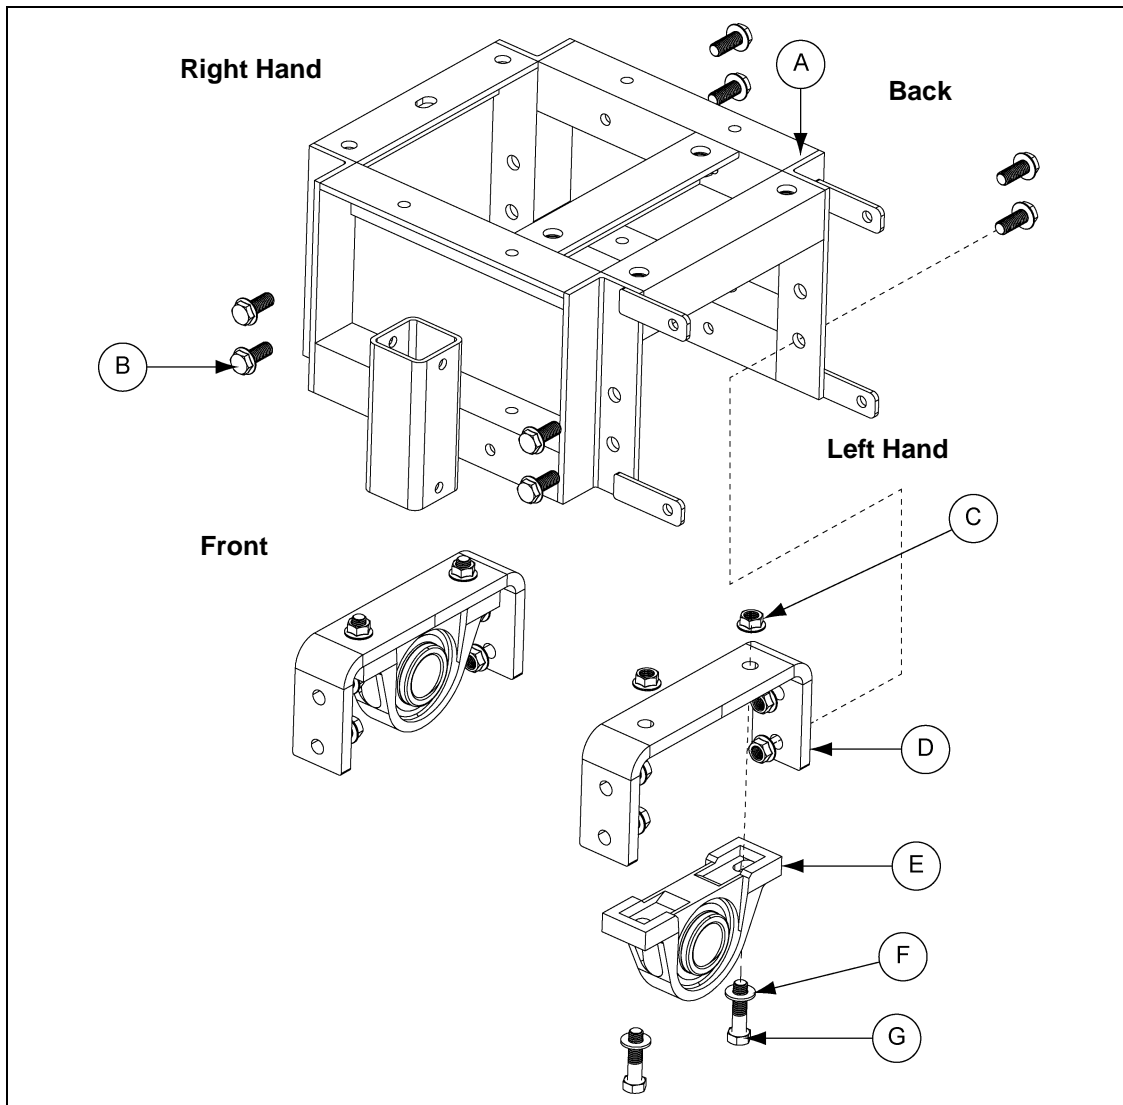

Figure 4P
1. Place the tractor frame (A) on plain flat ground.
2. Bolt each pillow block bearing (E) to a bearing mount bracket (D) using two (2) 1/2"-13 x 2" hex head cap screws (G), two (2) flat washers (F) and serrated flanged nuts (C).
3. Bolt each bearing mount bracket (D) to the tractor frame (A) using two (2) 1/2"-13 x 1-1/4" flange bolts (B) and serrated flanged nuts (C). (See Figure 4P.)